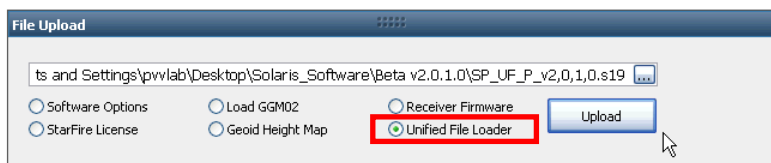

Figure 15: File Upload – Unified File Loader Option
29. Select *Unified File Loader* on the *File Upload* window (see Figure 15).